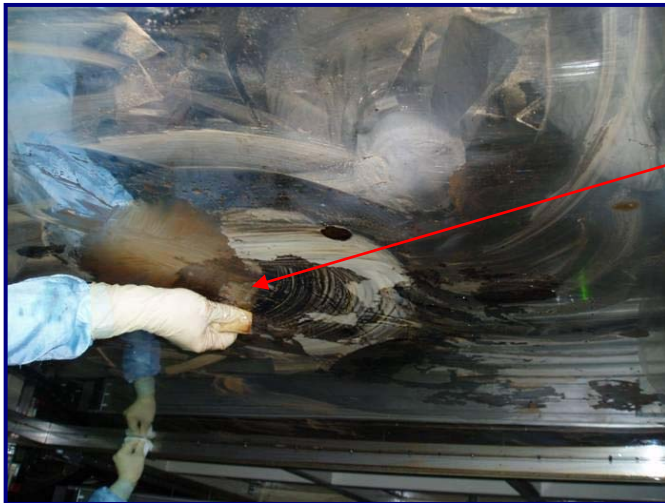

Fig 8: 360 Grit Diamond ScrubPAD scrubbing top plate
- Step 12:** Moisten the HT4536D 360 Grit Diamond ScrubPAD in container of DI water and rescrub all areas of the top plate using the same technique described above (**UNLOAD ScrubPAD AS NECESSARY**), concentrating on the areas of heavier deposition buildup and hard to reach areas throughout the top plate (See Fig 8)